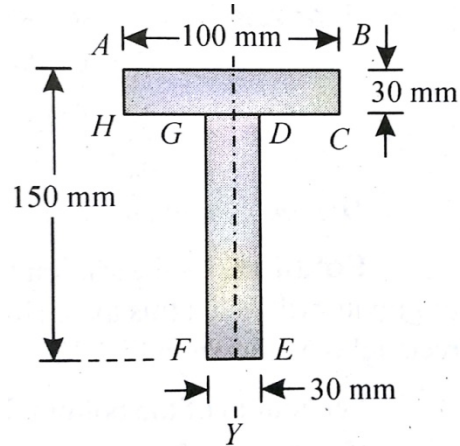

Figure 3.2
2. Locate the centroid of the T section shown in Figure 3.2.